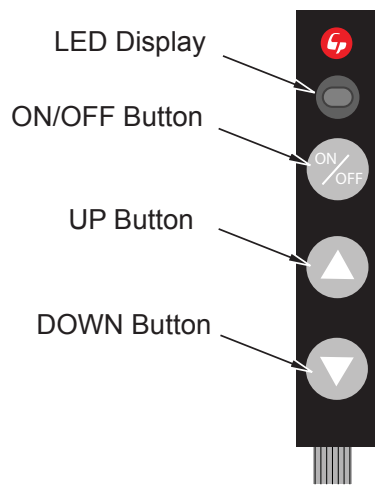

Figure 42 - Touch Pad Control
This touch control has only 3 buttons for controlling manually the flame of the appliance (see **Figure 42**).
1. the LED indicate that the system has accepted the order, and the flame will increase instantly (see **Figure 42**).
2. To decrease the flame level, press the down button (▼). A beep and a flash of the LED indicate that the system has accepted the order, and the flame will decrease instantly (see **Figure 42**).